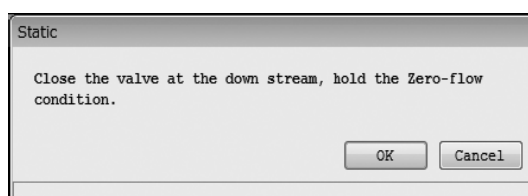

Fig.111
- ① Click on "Diagnosis/Service (T)" > "Test/Status" > "Installation" > "Static" in the menu.
- ② The following window will be displayed (Fig. 111). This will check the static device installation state. Click "OK" after completely stopping the fluid.